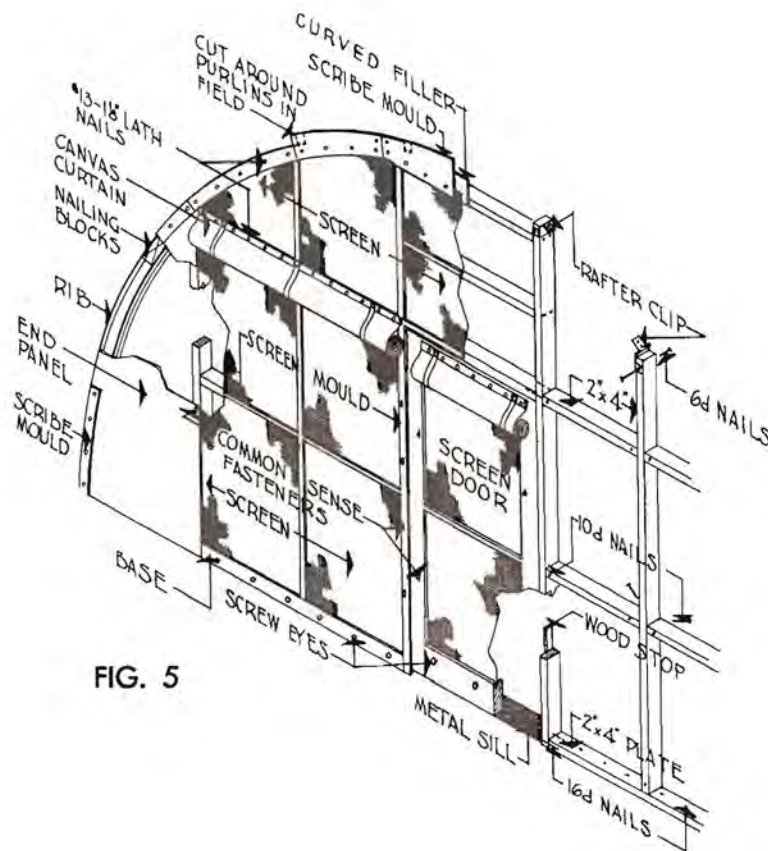

FIG. 5
5. Nail the curved filler (3 $\frac{5}{8}$ " wide) see Fig. 5. to the wood blocks in the rib. These follow the rib curve from one end stud around the top to the other end stud.